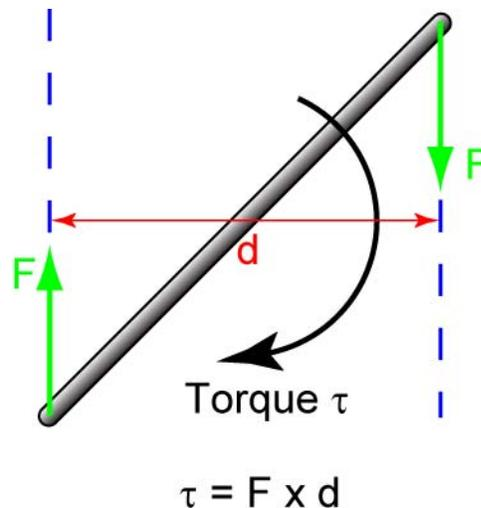

Figure 15: A Couple – Two Equal and Opposite Forces Acting on a Body whose Parallel Lines of Force Do Not Coincide
- Couples: A consists of **two equal and opposite forces** acting upon a body whose **parallel lines of force** do not coincide (not collinear). The only effect of a couple is to produce or prevent the turning of a body. The moment of the couple (or torque) is measured by the product of the magnitude of either **force** and the **perpendicular distance** between the action lines of the forces. Refer to Figure 15.